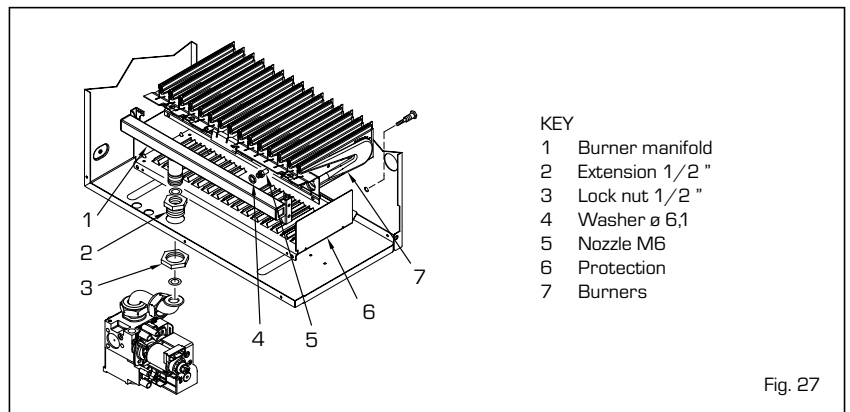

Fig. 27
To convert from one gas to another carry out the following operations (fig. 27):
- Dismantle the burner - gas manifold group (fig. 27).